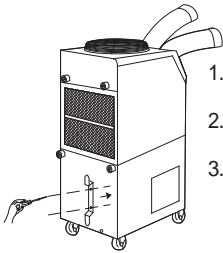

Figure 3
3. Use screws (enclosed inside of accessory box with cord holder) to install the cord holder on the air conditioner as shown in Figure 3.